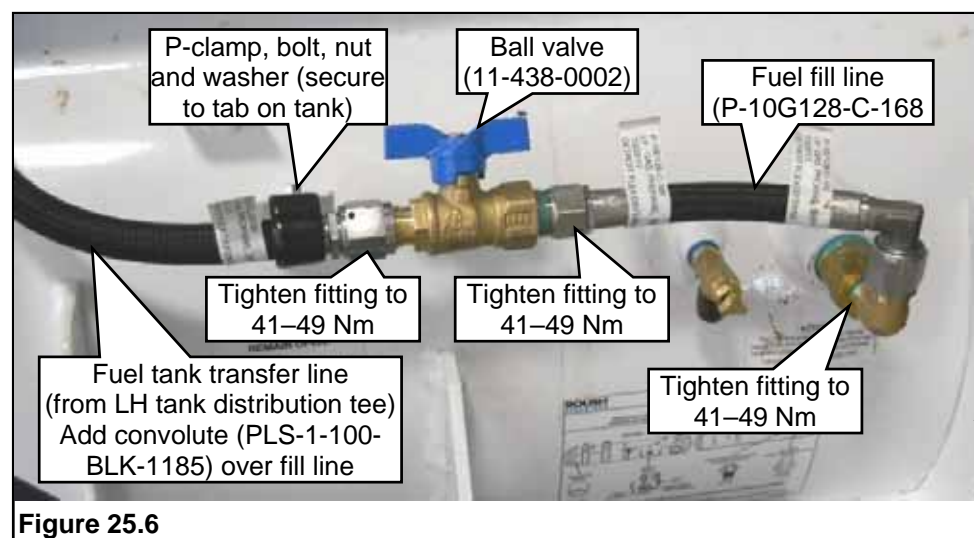

Figure 25.6
5. Attach the ball valve to the weld tab on the right short tank using a P-clamp, bolt and nut. Tighten to specification. Connect the fuel fill line from the ball valve to the right short tank OPD. Tighten the fittings to specification while aligning the line to the OPD. **Figure 25.6.**